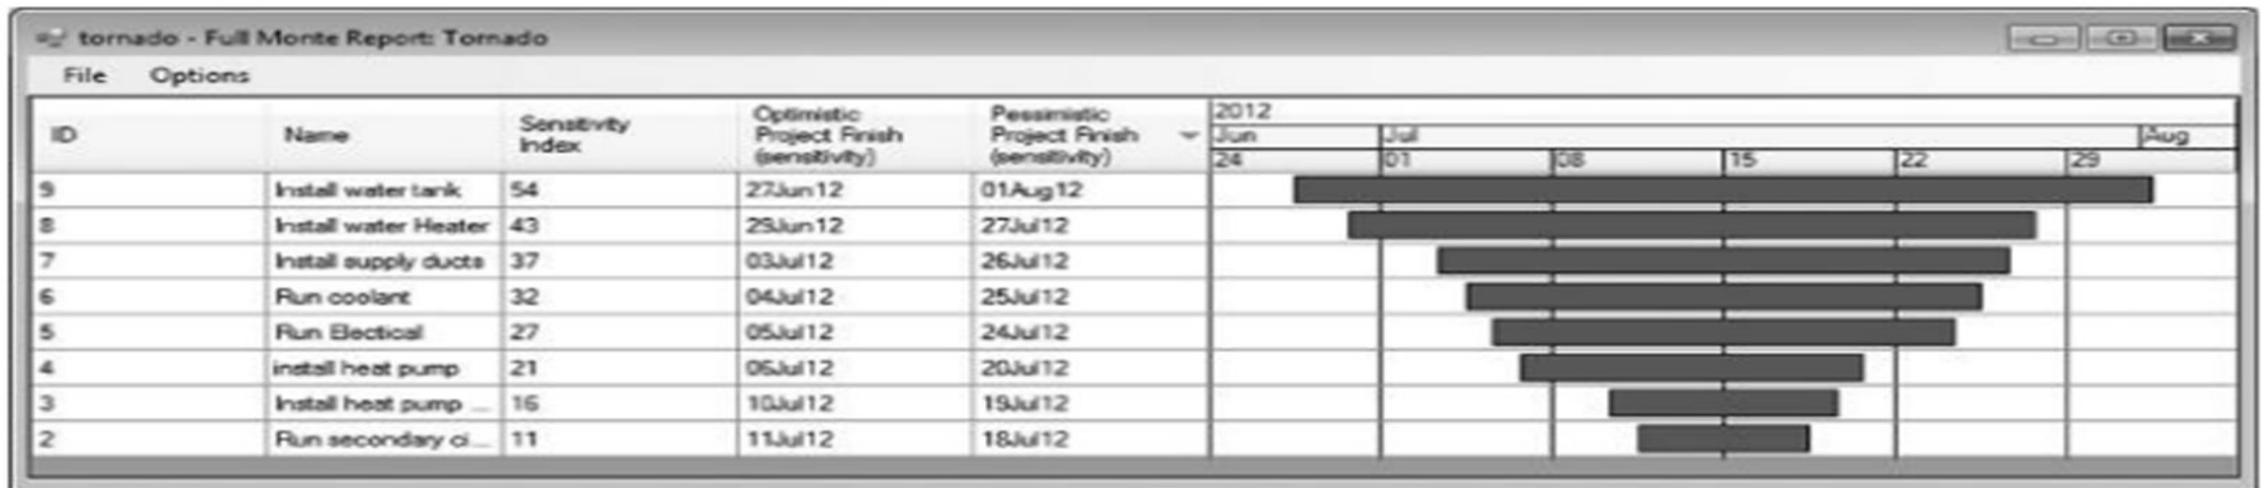

Figure 22.3 Tornado diagram. (From Barbecana, Inc. 2011b. Full Monte™ User
- ❑ An example of a tornado diagram is shown in Figure 22.3.